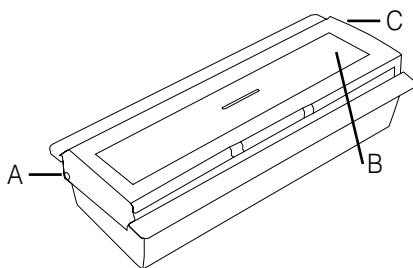

Figure 1: Doorbell pushbutton
- Place the doorbell pushbutton in such a way on the work surface that the two rotation axes of the transparent plastic face are at the rear (fig. 1 A and C).
- b) Using a pointed object (e.g. biro) carefully press now the small pin on the left side (fig. 1 A).
- c) Now you should be able to push up and remove the transparent plastic face (fig. 1 A).
- d) You can now open the small screw (fig. 1 B) using a small Phillips screwdriver and remove the front of the doorbell pushbutton behind which there is the PCB with the battery.
- b) Before assembling ensure that the small screw (fig. 1 B) can grip at the right spot. If required turn one part of the housing by 180°. Please make sure that the rubber gasket sits correctly within the housing.
- d) Carefully drive in the small screw (fig. 1 B) with a small Phillips screwdriver.
- e) Now hold the doorbell pushbutton in such a way that the small screw (fig. 1 B) is on the right.
- f) At the right side of the pushbutton there is a small opening (fig. 1 C) where the hinge pin of the transparent plastic face can be inserted.
- g) You can now position the transparent plastic face in such a way until it has almost reached its final position. You only have to carefully press the small pin (fig. 1 A) and to lock the transparent plastic face in place.
- g) Carefully drive in the small screw (fig. 1 B) with a small Phillips screwdriver.